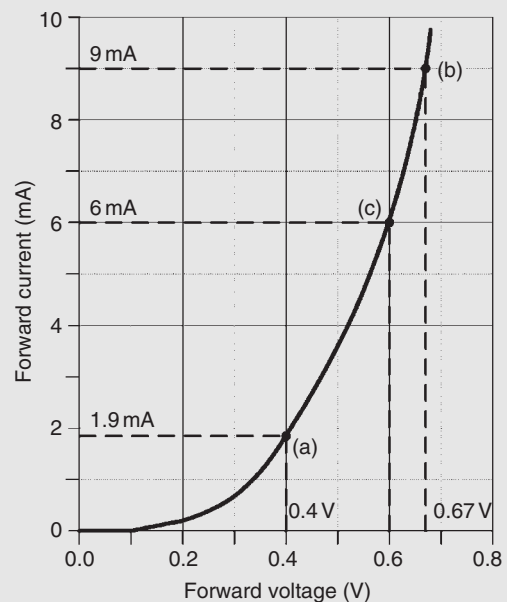

Figure 11.11
Problem 4. The forward characteristic of a diode is shown in Fig. 11.11. Use the characteristic to determine (a) the current flowing in the diode when a forward voltage of 0.4 V is applied, (b) the voltage dropped across the diode when a forward current of 9 mA is flowing in it, (c) the resistance of the diode when the forward voltage is 0.6 V, and (d) whether the diode is a Ge or Si type.
- (a) From Fig. 11.11, when $V = 0.4$ V, **current flowing, $I = 1.9$ mA**